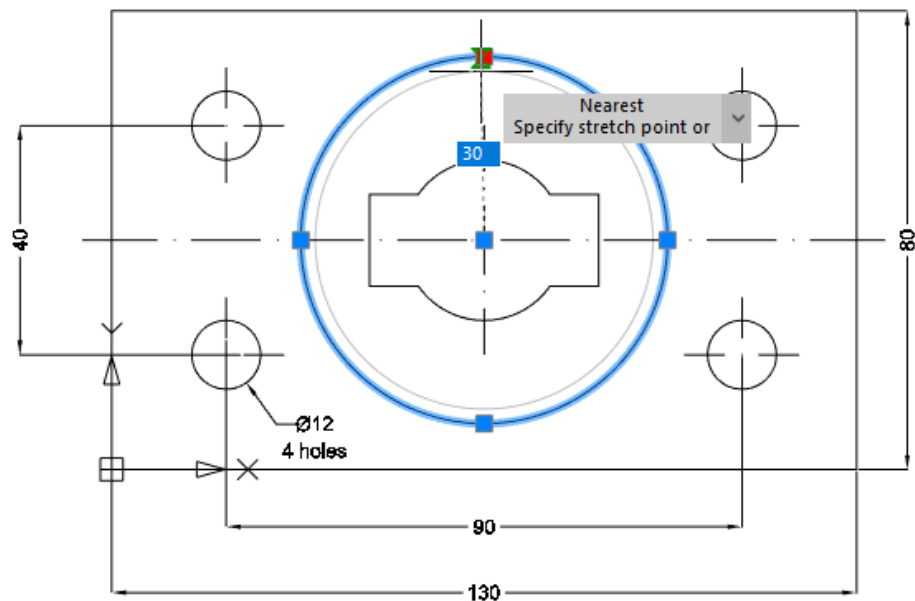

Fig. 10. Change the circle radius
1.10. Change the radius of the big circle: select the circle and click on the vertices (fig. 10).